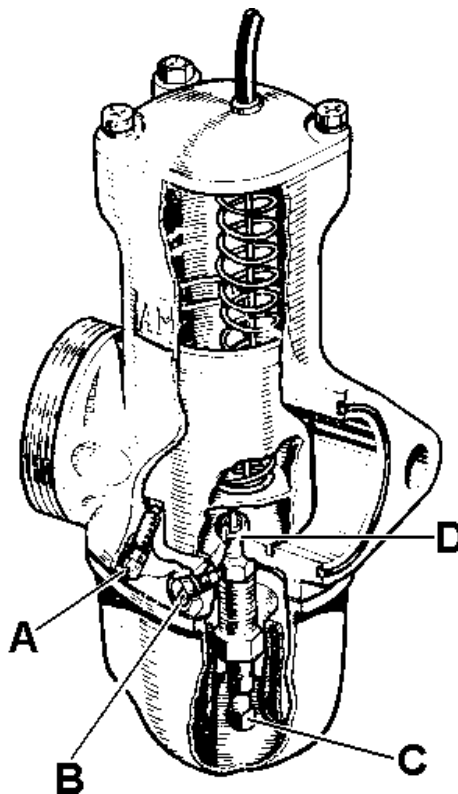

FIG. C2.
Figure C2 is a sectioned diagram of the concentric carburetter body, showing the throttle adjusting screw (A), and the pilot air adjusting screw (B).